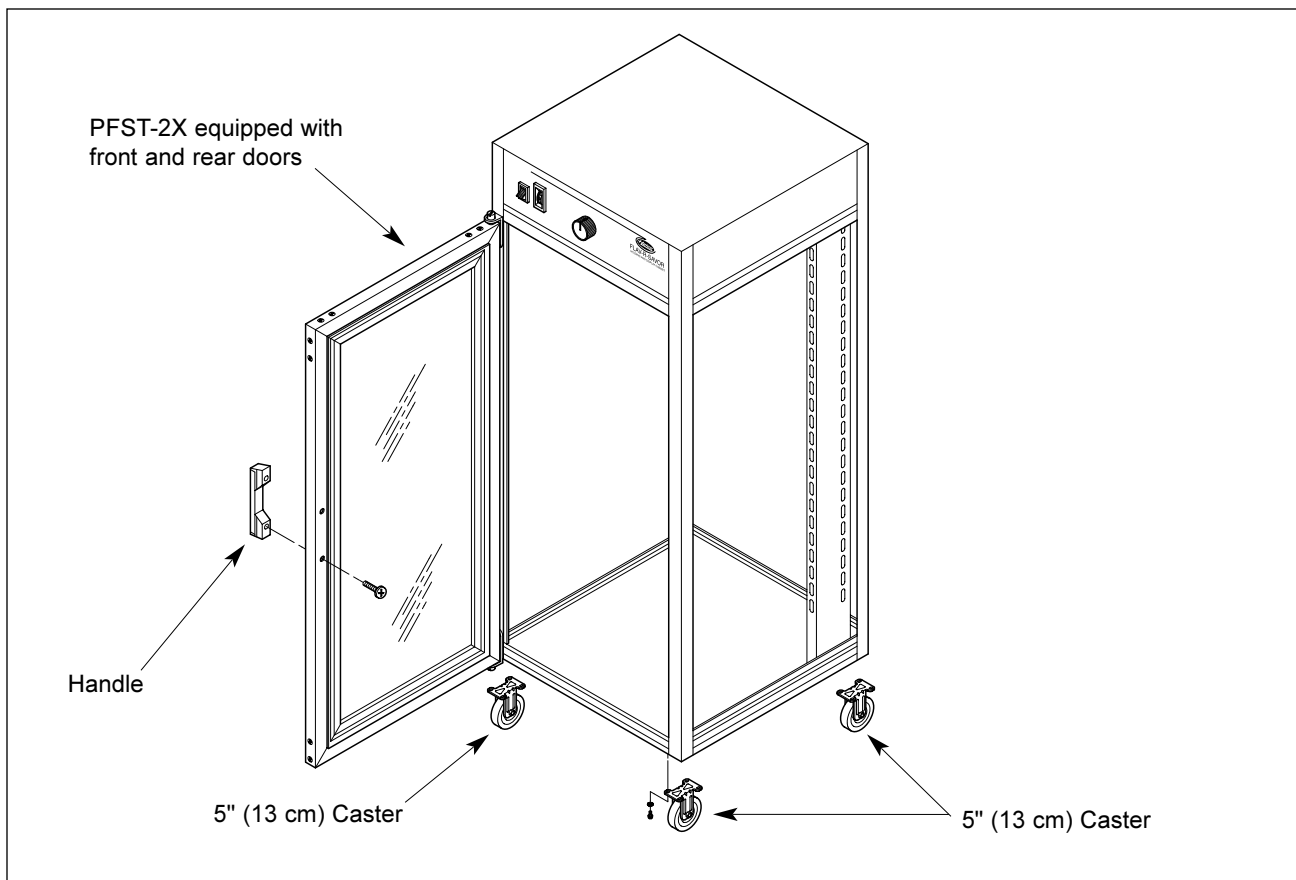

Figure 4. PFST Models
4. Install the handle(s) to the access door(s). See Figure 4.